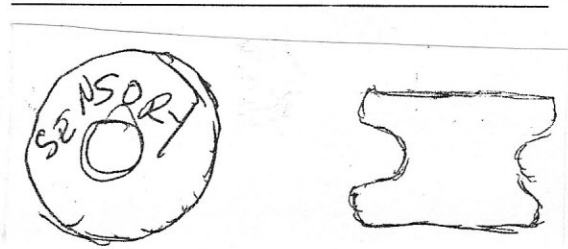

Figure 3: Sensory spool
For some reason, HECO reused part numbers – adding to the confusion. Figure 3 on the color page is a perfect example. Dick's picture shows a 4 rib and a 5 rib Sensory *both* marked 3017.
- Figure 3: courtesy of Dick Mackiewicz
pictured on pg. 5 figure 3
pictured on pg. 7 figure 3